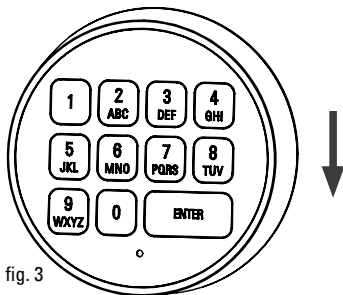

fig. 3
3. Place keypad housing back over studs on safe or vault door making sure to not pinch cable. Slide down until clicks and secure (*Figure 3*).